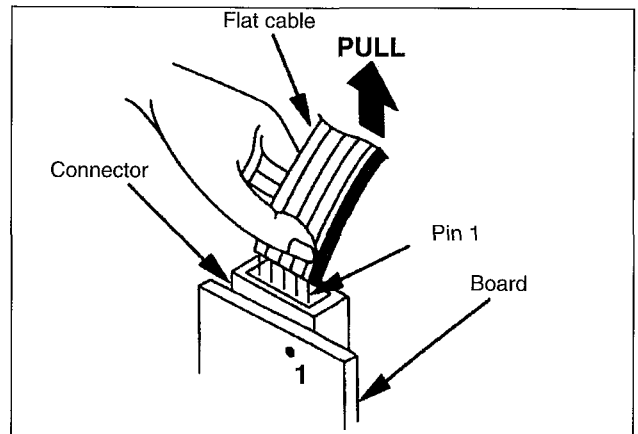

Fig 2-14
Pull out the flat cable, holding it securely to avoid damaging individual wires (see fig 2-14).
1. Adjust the position of the flat cable so that the lines on the flat cable align with the pins X of the trap connector (see fig 2-14)